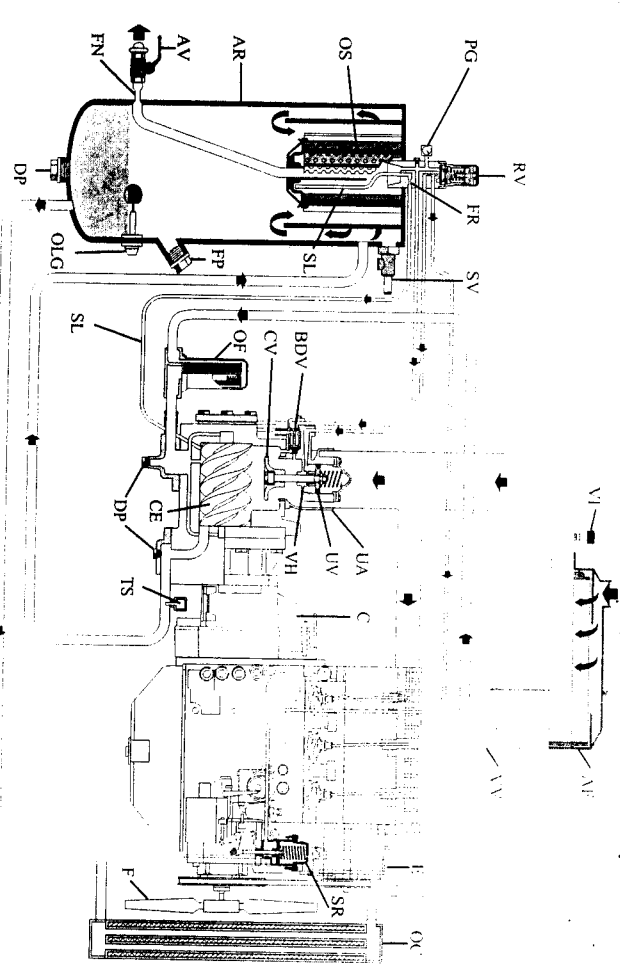

Fig. 2.3
**2.5 Air flow (SEE FIG. 2.3)**
**2.6 Oil system (SEE FIG. 2.3)**
**2.7 Continuous regulating system (SEE FIG. 2.3)**
3. Check the level of the compressor oil. The pointer of oil level gauge (O/G - Fig. 2.3) should register in the green range. Add oil if necessary. See section 4.3 for the oil to be used.
**!** Before removing oil filler plug (FP - Fig. 2.3), ensure that the pressure is released by opening an air outlet valve.
6. Press vacuumer valve (VV - Fig. 2.3) of the air filter to remove dust.
7. Check the air filter service indicator (VI - Fig. 2.3). If the yellow piston reaches the red marked service range, replace the filter element. Reset the indicator by pushing the reset button.